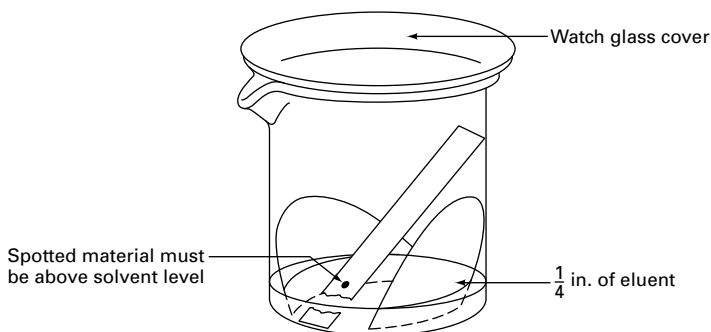

FIGURE 27.4 Prepared, spotted TLC plate in a prepared developing chamber. You can substitute a jar with a cap.
4. Place the slide in the developing chamber as shown (Fig. 27.4). *Don't let the solvent in the beaker touch the spot on the plate*, or the spot will dissolve away into the solvent! If this happens, you'll need a new plate, and you'll have to clean the developing chamber as well.